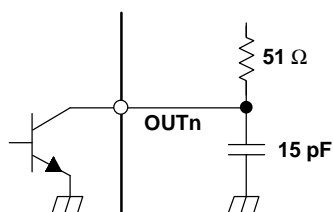
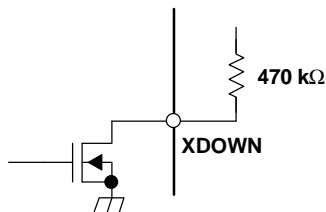

Figure 5. Test Circuit for  $t_{r1}$ ,  $t_{f1}$ ,  $t_{pd2}$ ,  $t_{pd3}$ ,  $t_{pd5}$ ,  $t_{pd6}$
Figure 6. Test Circuit for  $t_{pd4}$
(2) See Figure 5. Defined as from 10% to 90%
(4) See Figure 5 and Figure 11
(5) See Figure 5, Figure 6, and Figure 11
(6) See Figure 5